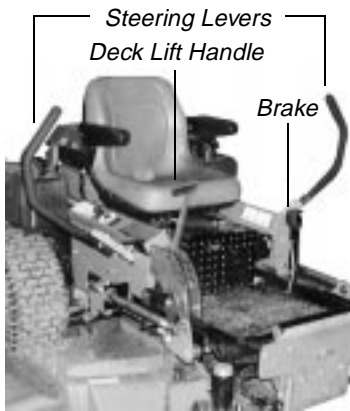

Figure. 3
3. **Left and Right Steering Levers:** (See Figure 3.) These hinged levers open out to the side in the neutral position to permit the operator to be seated or to leave the mower's seat. The operator, when seated, can pull the levers up to the operating position, a comfortable forearm's length away. These levers control all of the movements of the mower. Pushing both levers forward causes the mower to move forward. Pulling both levers back causes the mower to move backward. Pushing one lever ahead of the other lever causes the traction wheel on the side where the lever is ahead to rotate faster than the other traction wheel, making the mower turn toward the side where the lever is behind. When one lever is pushed forward and the other lever pulled back the same amount, one traction wheel will turn in reverse and the mower will turn within its own length.
5. **Parking Brake:** (See Figure 3.) Located on the left side of the traction unit. The handle is an overcenter lever which applies the internal drum-type brake on each drive wheel when the handle is in the up position. The brake must be engaged in order to start the engine.
6. **Deck Lift Handle and Optional Foot Pedal Lift Assist:** (See Figure 3.) Located on the right front corner of the mowing deck. Raise the mowing deck to the transport position, by pulling the lever to the rear and moving it inward into the stop for transport. To lower the mowing deck, pull the deck lift handle and move it outward. This lowers the deck to the cutting position. The foot pedal lift assist (not pictured above) can provide “lift assist” to the hand lever or with “foot effort only”. To provide assistance to the lift handle: remove the hairpin clip from the locking pin and remove the pin from the pedal assembly. Fold the pedal down to the horizontal position so the hole in the pedal aligns with the hole in the lever. Reinstall the locking pin and hairpin clip. Pull on the Lift handle and depress the foot pedal to raise the deck. Lifting with “foot effort only” depress the foot pedal (the hand lever will lock into transport position if fully depressed). To release the lift mechanism depress the foot pedal, move the hand lever outward and slowly reduce foot pedal effort to lower the mechanism. To service the unit: Remove the